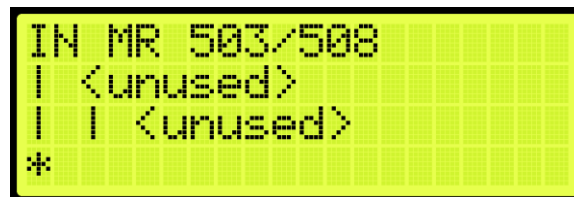

Figure 390: Unused Input/Output
- The number on top indicates which input/output is currently being viewed. For example, Figure 390 shows an example of an unused input.